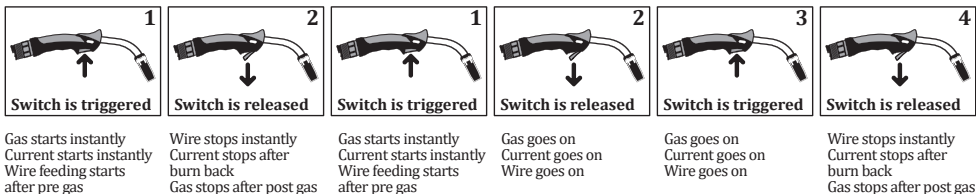

Figure 18 : Using the 4-Position
- The 4-position operates as shown in Figure 18. The 4-position provides ease of use for the welder in long-term and automatic welding operations.